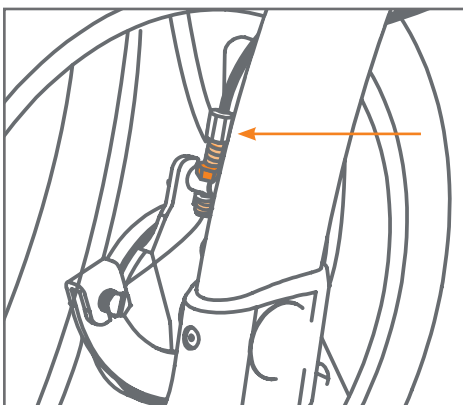

Figure 58: Brake adjustment via the circlip (dark orange) and the adjusting screw, detail.
- b. Stay at the rear of the Rollz Motion when adjusting the brakes. Loosen the locking ring at the bottom of the brake cable (pull the cable up to make it easier). Turn the adjustment screw above it to shorten or extend the brake cable (**Figure 58**). Turn clockwise for more braking power, and counterclockwise for less braking power.